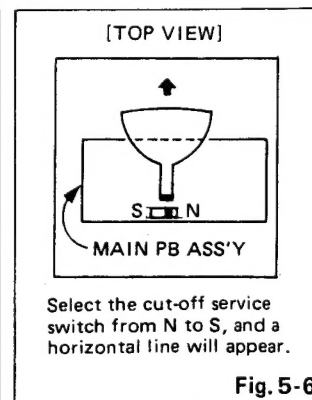

Fig. 5-6
4. Select a service switch as shown in Fig. 5-6.
8. Return a service switch to normal position. (Fig. 5-6)